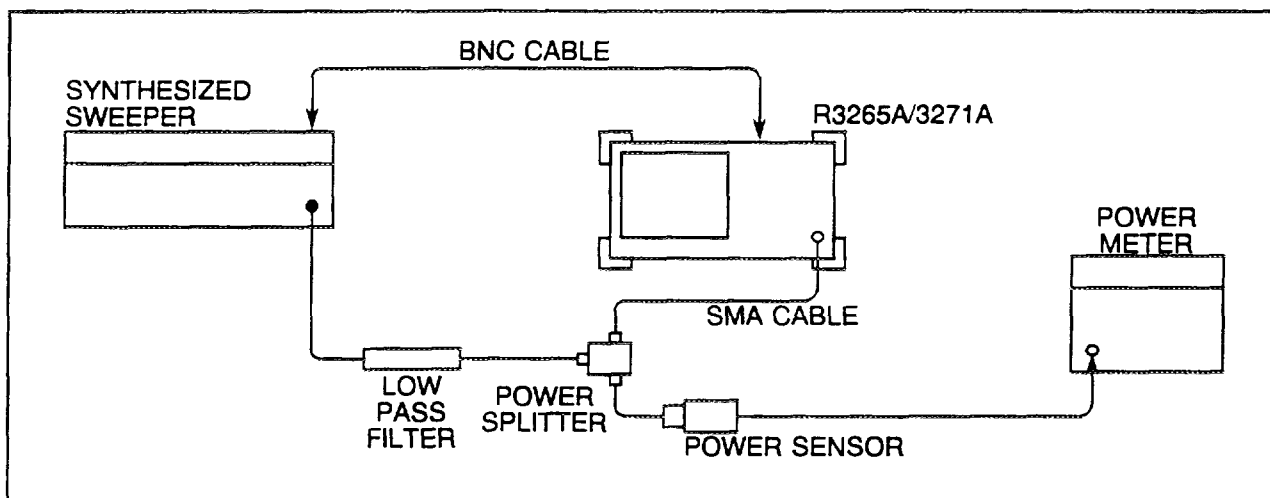

Figure 4-11 Second Harmonic Distortion Test Setup
- (1) Zero and calibrate the power meter. Rotate the CAL FACTOR switch to the power sensor's 1.5 GHz calibration factor.
- (2) Connect the equipment as shown in Figure 4-11.
- (3) Press the INSTR PRESET key on the TR4515. Set the TR4515 controls as follows:
- (13) Connect the equipment as shown in Figure 4-11.
- (14) Rotate the CAL FACTOR switch to the power sensor's 1.9 GHz calibration factor.
- (15) Set the TR4515 key for a 0 dBm $\pm$ 0.1 dB reading on the power meter.
- (16) Set the R3265A/3271A center frequency to 1.9 GHz and span to 1 kHz.